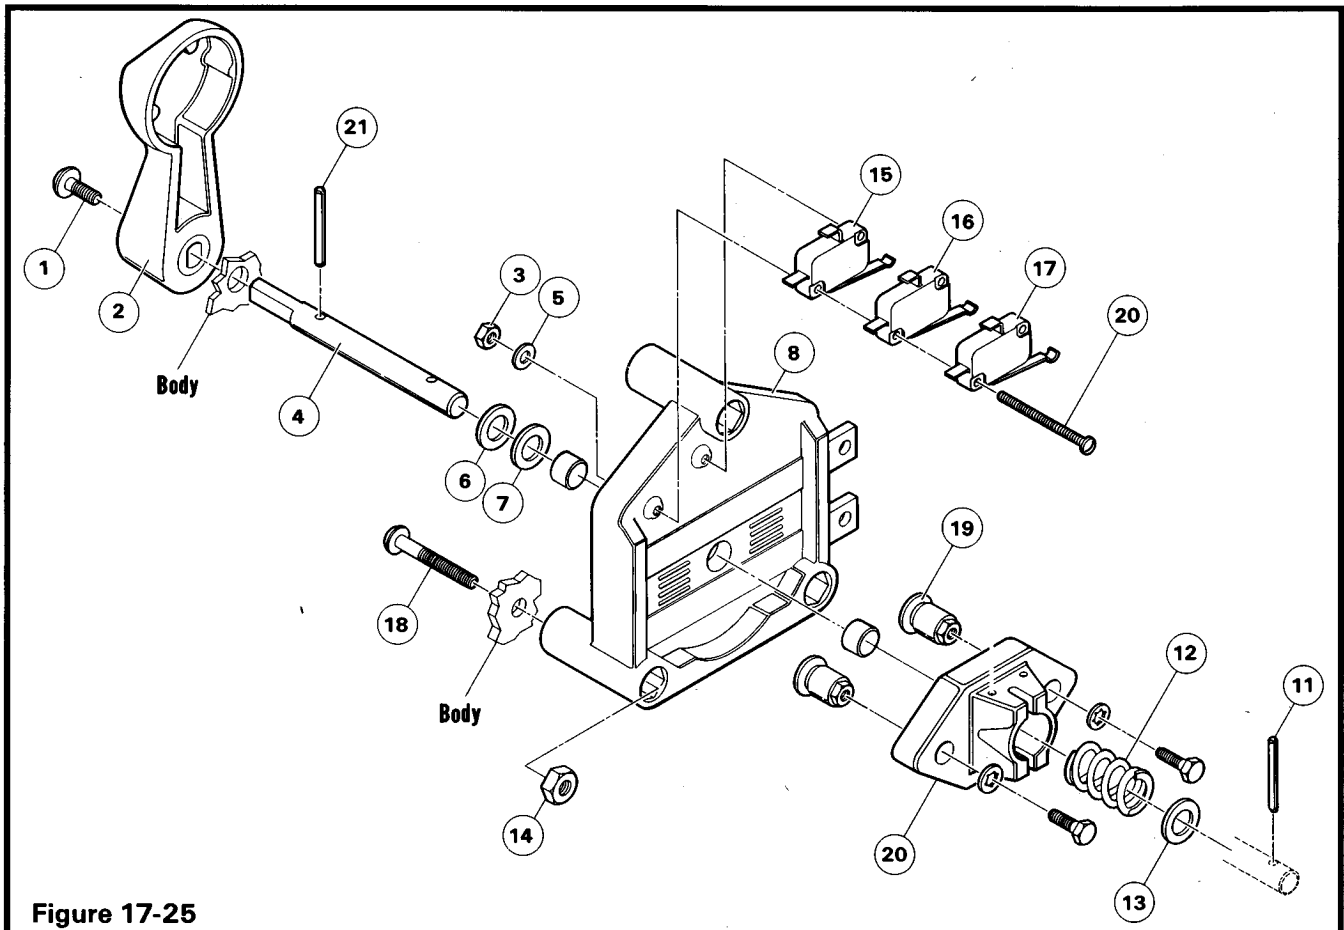

Figure 17-25
### FORWARD AND REVERSE SWITCH (FIGURE 17-25)
The F&R anti-arcing limit switch, reverse buzzer limit switch, and reverse half speed limit switch are located on the F&R switch and are activated by a cam on the F&R switch rotor (Figure 17-25).
1. The half speed resistor assembly is connected to the half speed reverse limit switch on the F&R switch (**Figure 17-25**).